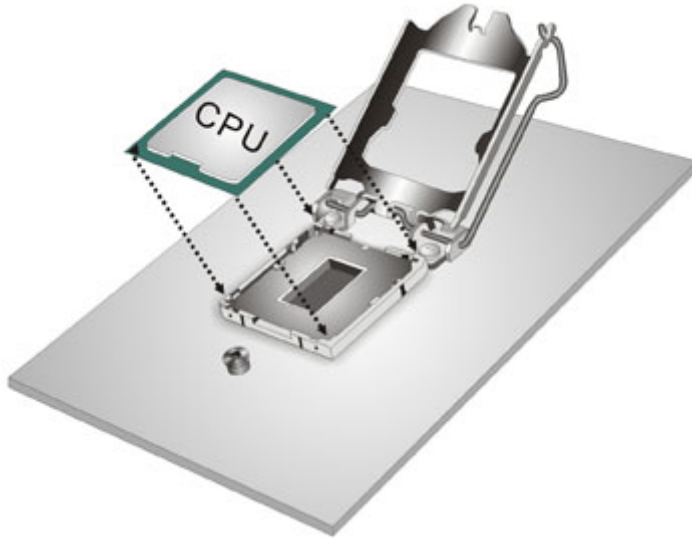

Figure 4-3: Insert the Socket LGA1151 CPU
Step 7: **Insert the CPU.** Gently insert the CPU into the socket. If the CPU pins are properly aligned, the CPU should slide into the CPU socket smoothly. See **Figure 4-3**.